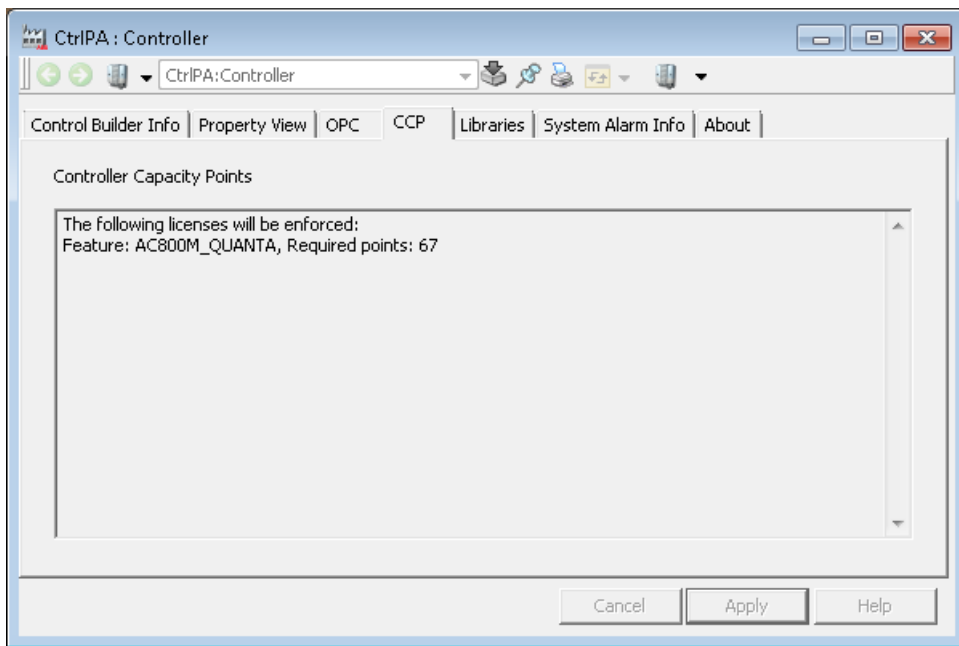

Figure 75. Example of the CCP tab in the Controller aspect of the selected controller
2. Click the Controller aspect and select the CCP tab in the aspect preview pane. The current downloaded CCP value for the selected controller is displayed (see Figure 75).
The CCP tab in Figure 75 shows the Controller Capacity Points (CCP) count for only the selected controller to which the application is downloaded. To calculate the total CCP count, open the Controller aspect of each controller that participated in the download, and add the CCP counts.